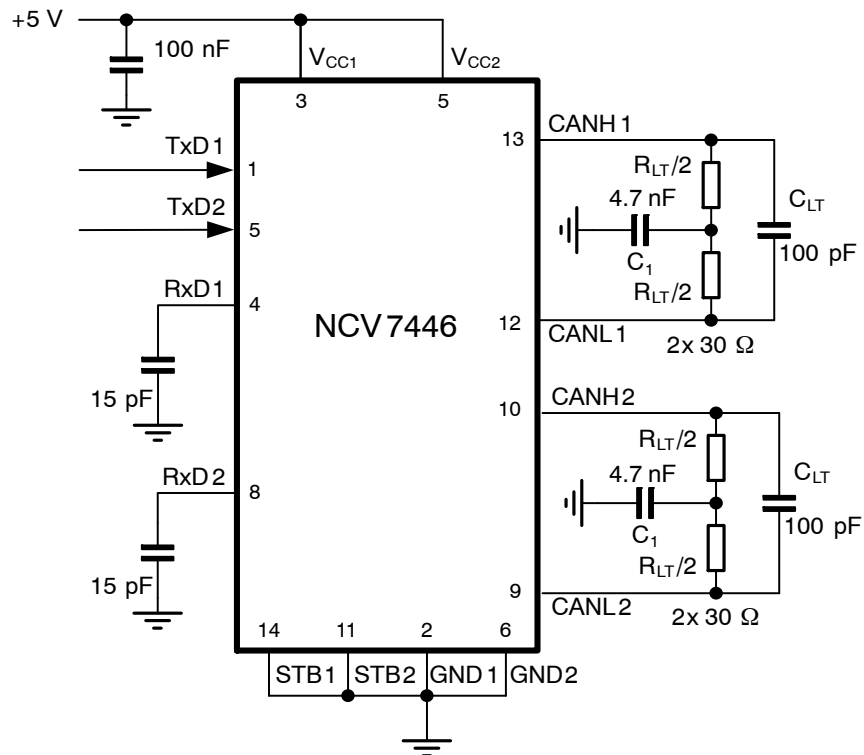

Figure 6. Test Circuit for Timing Characteristics
**TIMING CHARACTERISTICS (see Figure 4 and Figure 6)**
TIMING CHARACTERISTICS (see Figure 4 and Figure 6)